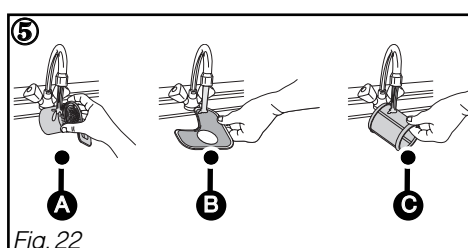

Fig. 22
- ② Loosen the waste filter a quarter of a turn and then remove it **A**
- ③ Remove the main filter **B**
- ④ Remove the micro filter **C**
- ⑤ Carefully clean filters **A**, **B** and **C** under running water (Fig. 22)